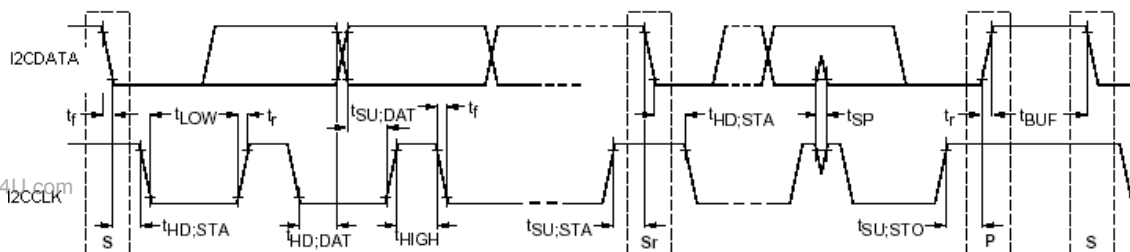

Figure 9: AC Characteristics
*All values referred to V_{IHmin} and V_{ILmax} levels (see Table 2). Please refer to Figure 9 for more information on AC characteristics.